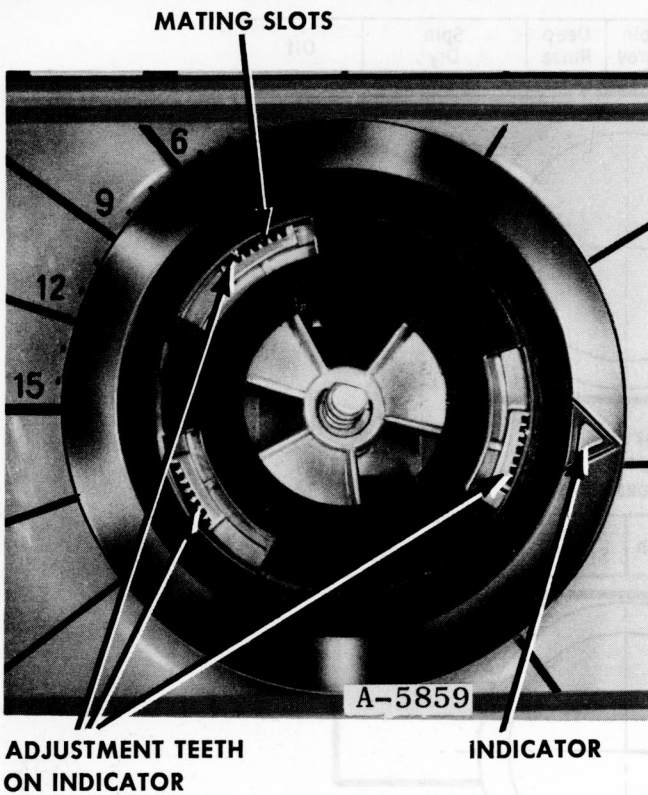

Figure 50
3. Adjust as required, see Figure 50.